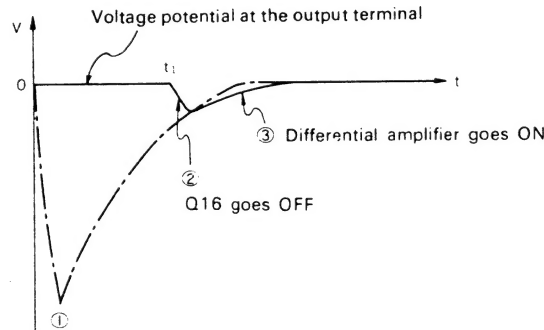

Fig. 1 Output terminal potential change
If there is no protection circuit, due to the bootstrap circuit consisting of C39, R55 and R57 and for C29, Q3 is turned on for a short time. As a result, Q1 in the differential amplifier is turned off and the output tends to be negative, after this the balance of the differential amplifier tends to be restored and the potential of the output returns to 0 as shown by the chained line ① in figure 1. Such a rapid and wide variation in potential results in output of shock noise.
These transistors remain OFF until the potential at point X drops below approximately 0.7V because of the delayed $-V_B$. Then Q16 will be OFF and the stages after the predriver will be ON. As Q16 is not turned off immediately, the delay indicated by ② in figure 1 occurs. Because of the integrator, the differential amplifier is turned on slowly to suppress shock noise as shown by ③ in figure 1.